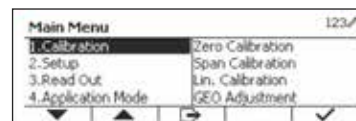

Figure 7
1. Long press the  button to enter Main Menu. (See Figure 7)